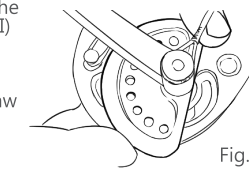
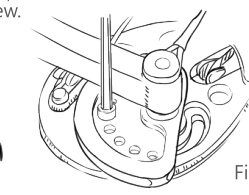

Fig. 4
Fig. 5
3. Line the desired inner-cam module position hole labeled A-I (Fig. 3) with the hole on the outer cam (Fig. 4). Insert the module screw into the desired position hole and tighten. (Fig. 5)